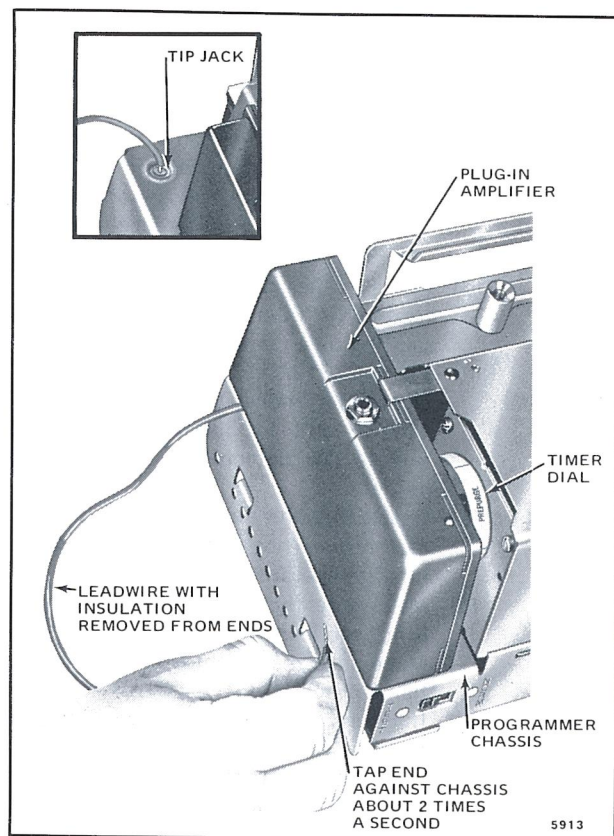

Fig. 13—Simulating flame for an infrared amplifier.
- (1) Complete step 3.b on page 20.
- (2) Remove the plug-in infrared amplifier.
- (3) Remove 3/4 inch of insulation from each end of a 10 inch length of insulated wire. Plug one end of this wire into the tip jack on the front of the programmer chassis (Fig. 13).
- (4) Reinstall the plug-in amplifier and close the master switch.
- (5) Tap the free end of the wire against the programmer chassis at a rapid frequency (about 2 times a second) to simulate flame. Relay 2K should pull in and stay in while flame is simulated.
- (6) If relay 2K pulls in, the trouble is in the flame detector or its circuitry outside the programmer. Proceed to step 4.
- (7) If relay 2K does not pull in, open the master switch.
- (8) Replace the plug-in amplifier with a new one of the same part number.
- (9) Close the master switch and repeat (5).
- (10) If relay 2K pulls in, restore the programmer to operating condition as instructed in step 4.a, below.
- (11) If relay 2K still does not pull in, replace the programmer.